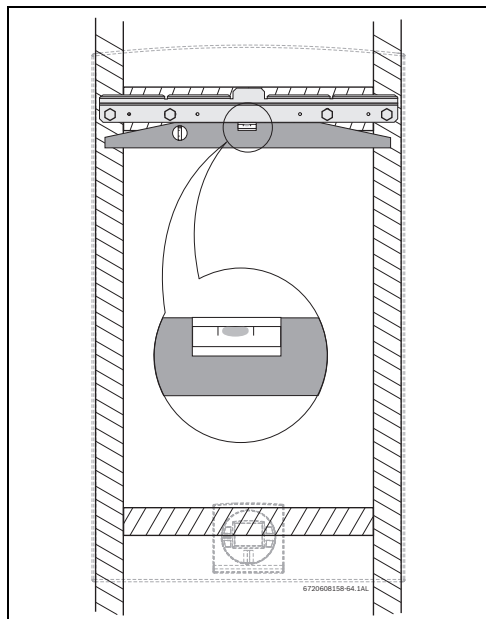

Fig. 32 Leveling wall mounting bracket
- ▶ Secure the wall mounting bracket provided with the heater to a wall surface. The heater must be kept level on the wall surface, see fig. 32, page 40.